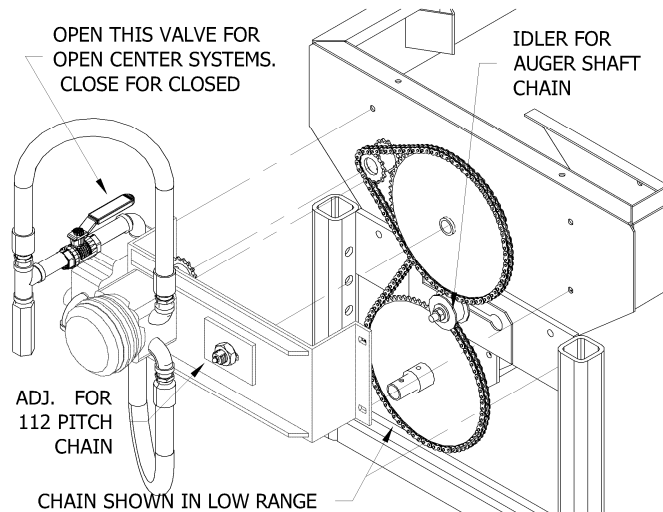

Figure 7 (LOW RANGE SETTING)
7. HYDRAULIC DRIVE. (Figure 7)